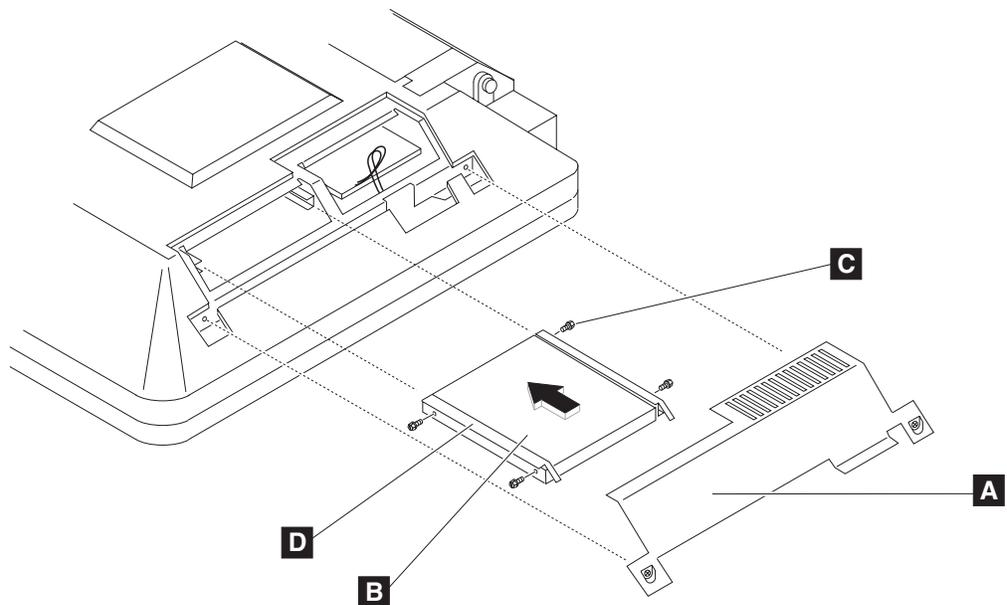

Figure 23. Removing the hard disk drive and bracket
1. Open the hard drive door (**A** in Figure 23).